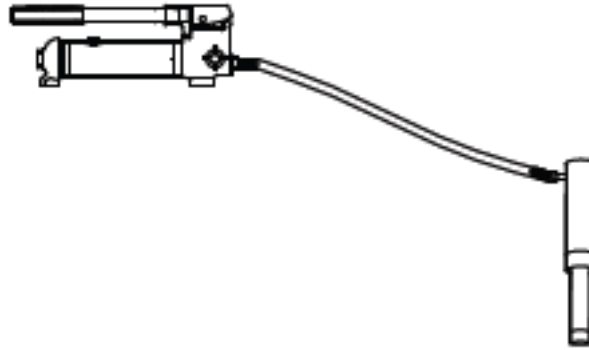

Figure 4 - Pump and ram illustration to bleed air.
1. Bleed air from ram: Place pump at a higher elevation than the hose and ram as shown in figure 4 below. The objective is to float the air bubbles up hill and back to the reservoir where they belong. Close valve and extend ram as far as possible. Open valve fully allowing oil and air to return to reservoir. Repeat this procedure two or three times will do the trick.